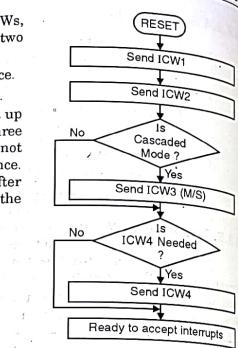

Fig. 18.6.1 : 8259A initialization sequence
- Fig. 18.6.1 shows the initialisation sequence.
- As discussed in the above subsections, the initialization sequence shown in Fig. 18.6.1 should be followed.